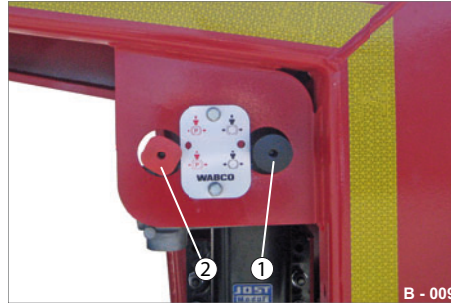

Fig. 20 Operating console: Brakes
- Engage the spring-loaded parking brake (Fig. 20/2). This brakes the trailer.